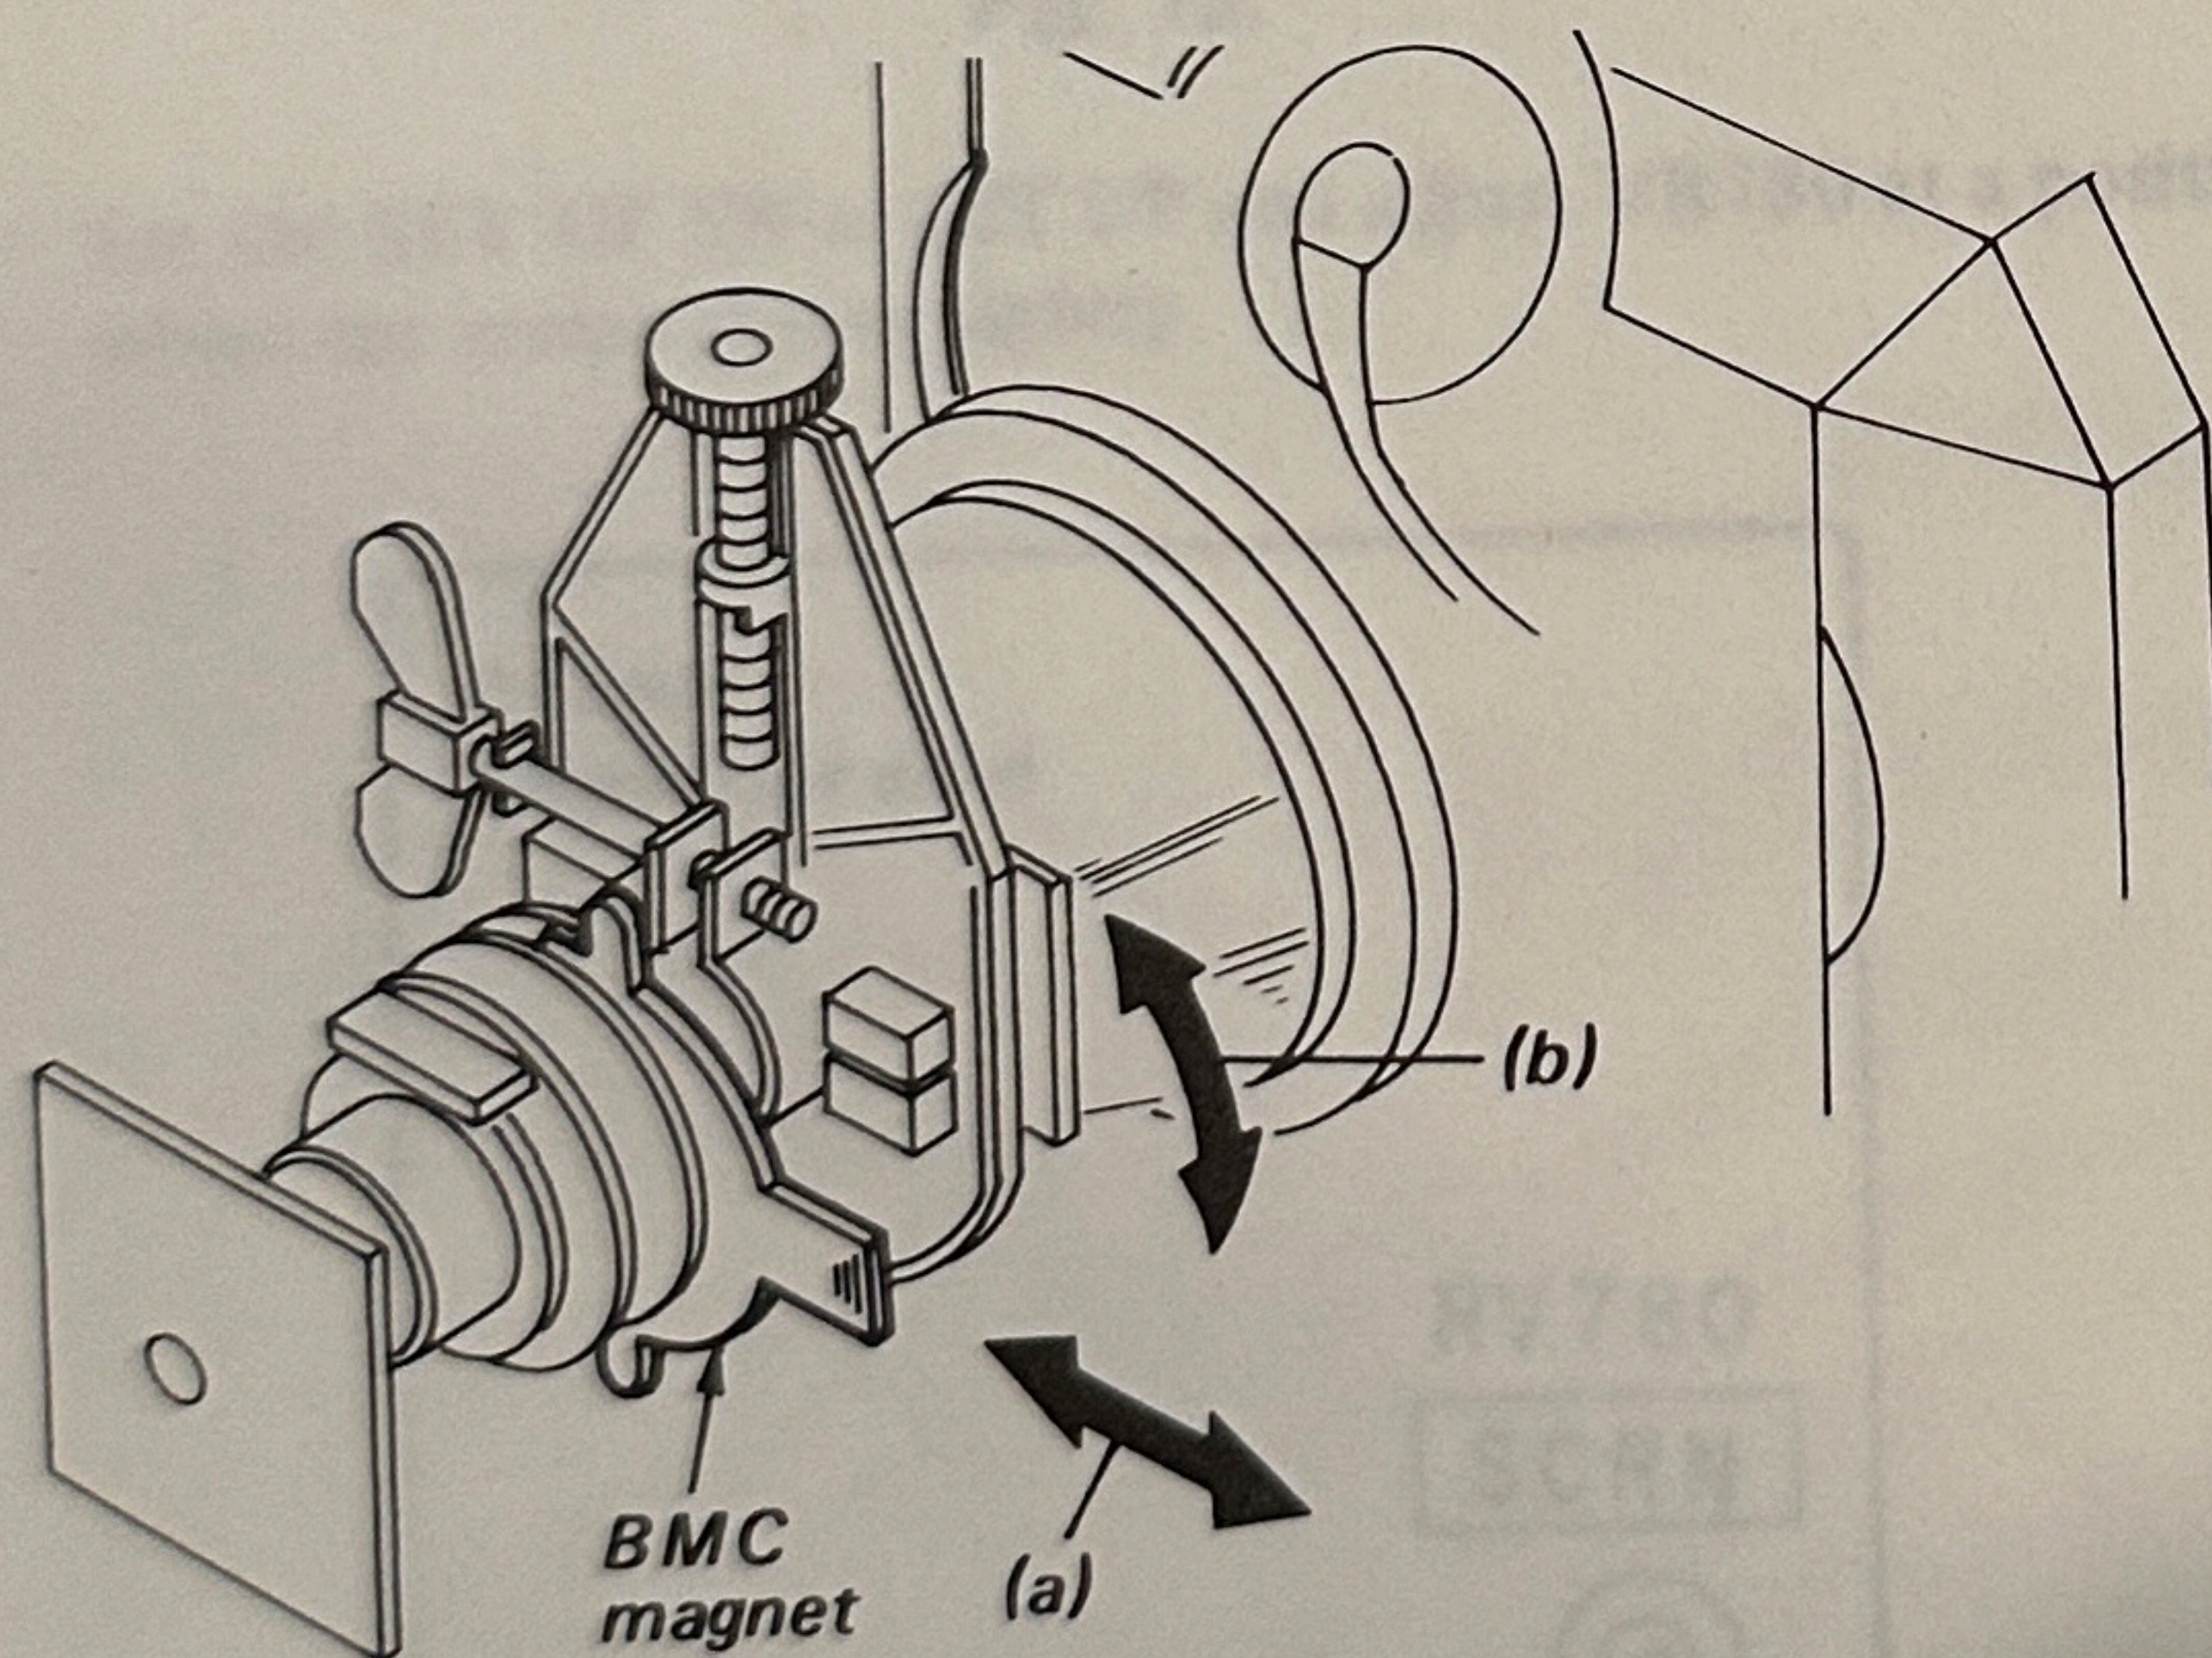

Fig. 5.
2. If the horizontal B slips in the same direction over the entire screen, move the BMC magnet in the direction indicated by the arrow (a) in Fig. 5 so as to converge R, G and B. (HMC compensation)
2. If the vertical B slips in the same direction over the entire screen, turn the BMC magnet in the direction indicated by the arrow (b) in Fig. 5 so as to converge R, G and B. (VMC compensation)